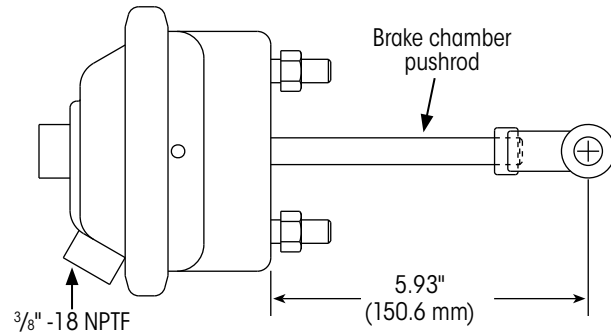

Figure 51: Brake chamber free length
1. Measure the brake chamber pushrod (Figure 51). If necessary, rotate the clevis to obtain a free length of 5.93 (150.6 mm) inches.